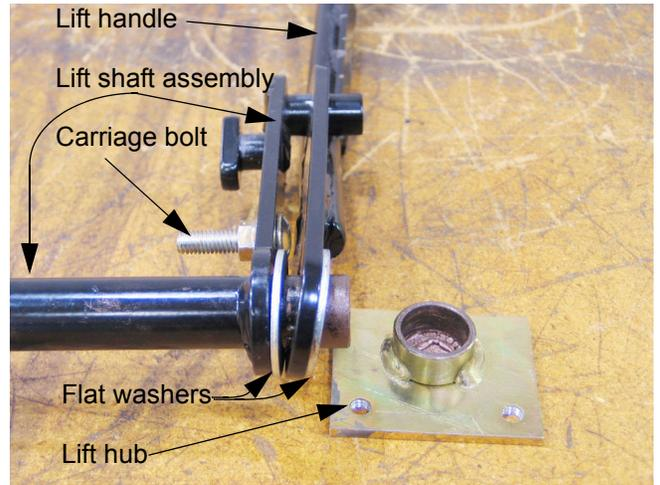

Figure 14.18
14.18. The right side hub will slip off of the shaft as well, but it also retains the deck height control lever. See Figure 14.18.